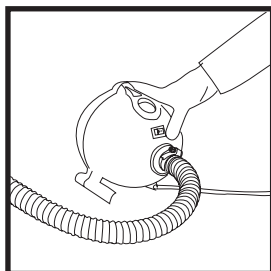

Fig. 2
4. Use the pump to inflate the product until you feel it is completely taut (you will hear the sound of the pump changing) (Fig. 2).